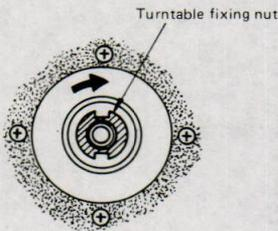

Fig. 7
- 1) Remove turntable fixing nut by using the supplied wrench. To remove nut, turn it clockwise. (See Fig. 7)